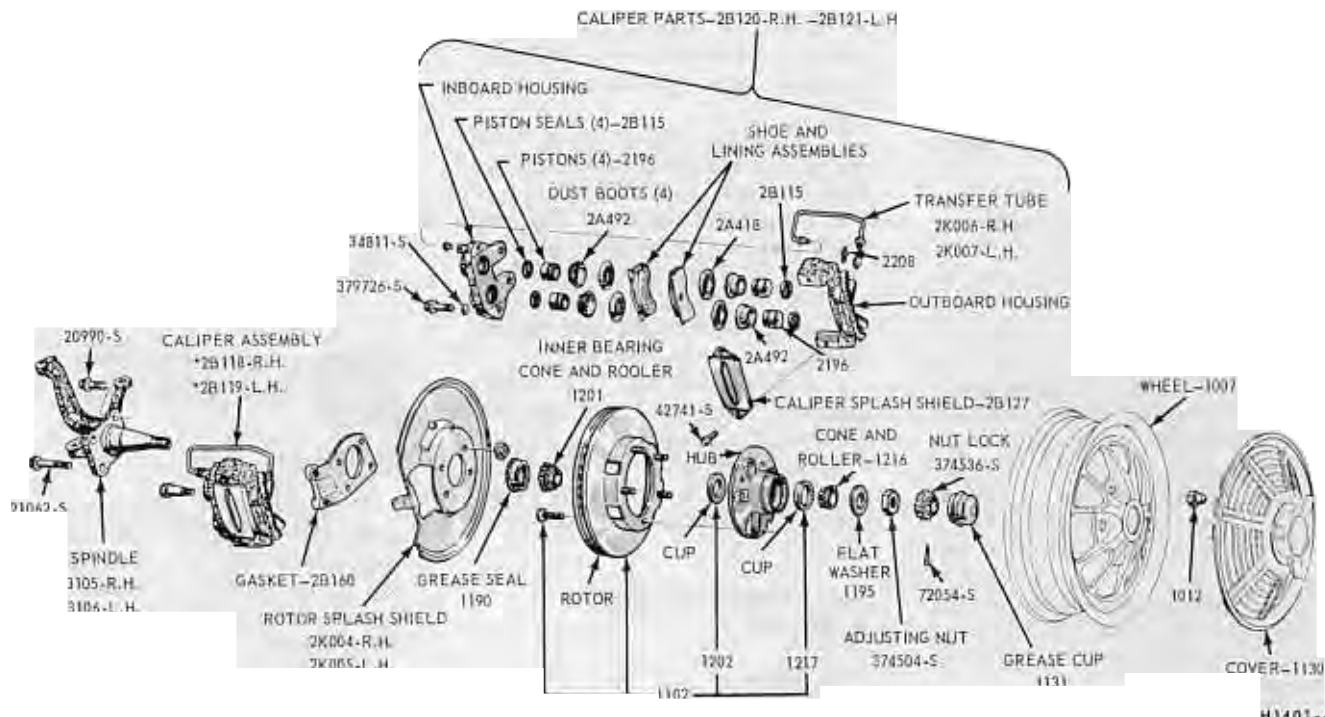

FIG. 20—Disc Brake Disassembled
1. Remove the wheel and tire from the hub and rotor assembly (Fig. 20). **Be careful to avoid damage or interference with the caliper splash shield, bleeder screw fitting or transfer tube.**
1. If the rotor is being replaced, remove the protective coating from the new rotor with carburetor degreaser. Pack a new set of bearings with specified grease, and install the inner bearing cone and roller assembly in the inner cup. Pack grease lightly between the lips of a new grease retainer and install the retainer (Fig. 20).
2. Remove the four nuts that attach the splash shield to the mounting bracket and remove the shield (Fig. 20).
2. If the shield is bent, straighten it out before installation. Position the shield to the mounting bracket, install the attaching nuts, and torque to specification (Fig. 20).